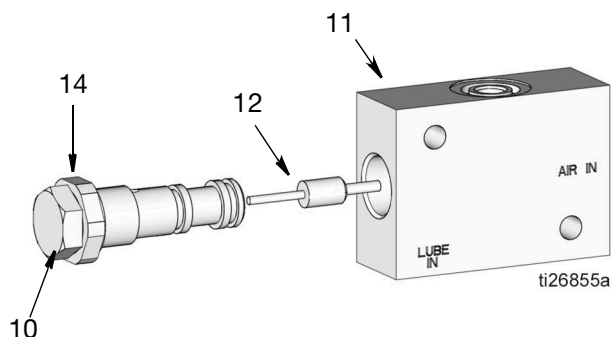

FIG. 13
5. Apply a thin layer of oil to the spray valve piston (12). Install spray valve piston in adjustment sleeve (10). **Refer to FIG. 13 to verify the piston is correctly oriented in the adjustment sleeve.**
6. Install assembly in valve body (11) (FIG. 13).